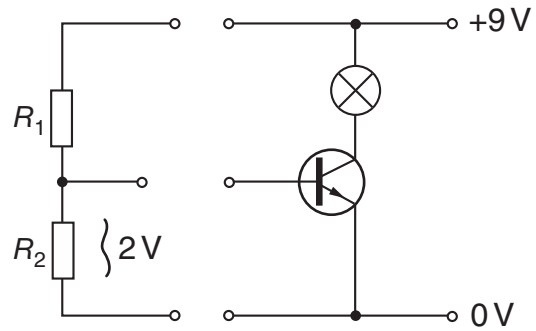

Fig. 15
- (d) Resistors can be used to bias a transistor in a circuit. This is done using an arrangement of resistors known as a potential divider. Fig. 15 shows a potential divider.